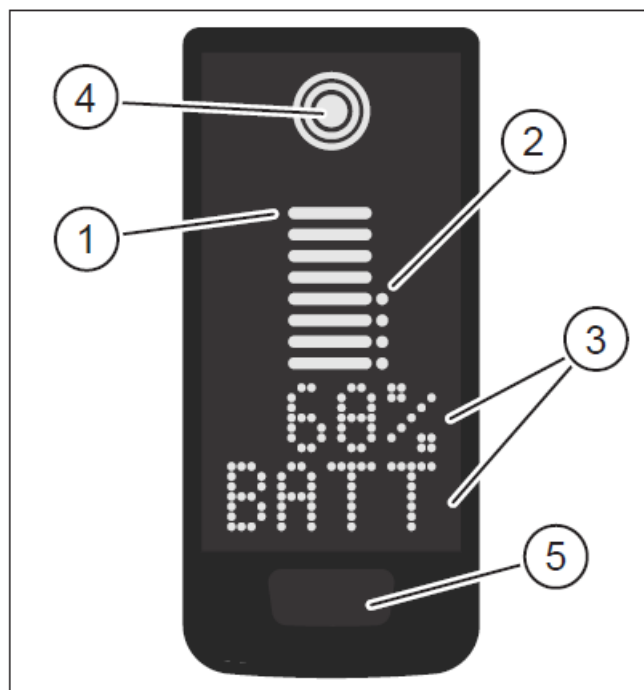
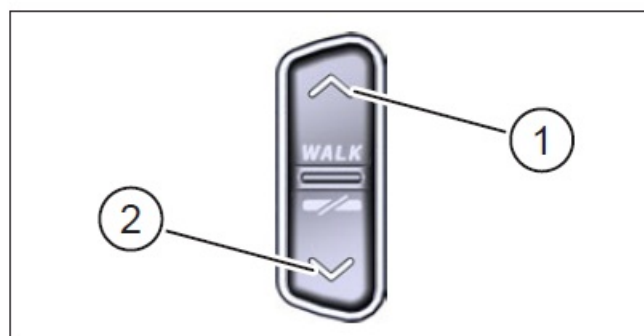

Fig. 1: Operation and indicator components on Display
Fig. 2: Operation on the Remote
Pos. in Fig. 1	Description
Pos. in Fig. 2	Description
- Press and hold the button on the Display (pos. 5 in Fig. 1) and the DOWN button on the Remote (pos. 2 in Fig. 2) for at least 5 seconds.
- With a double click press on the button on the Display (pos. 5 in Fig. 1) you switch to the next screen view.
- Press the DOWN button on the Remote control (pos. 2 in Fig. 2).
- Press the button on the Display (pos. 5 in Fig. 1).